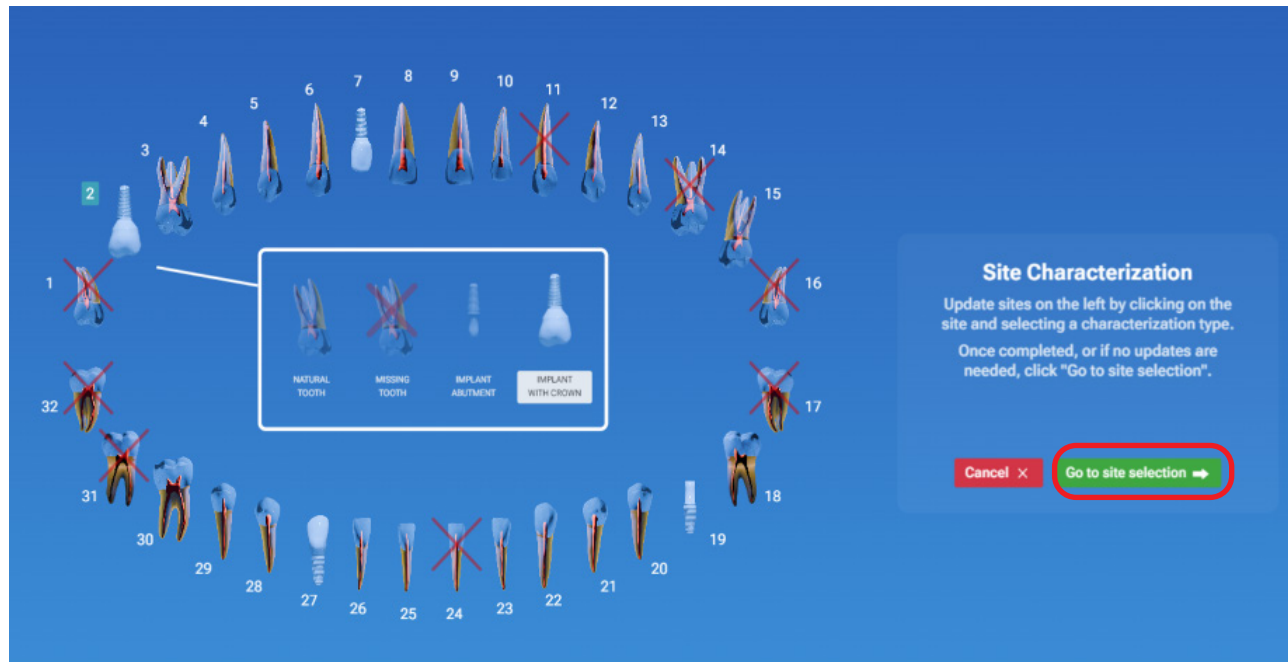

Figure 20: "Measure" tab
1. The first step is the characterization of teeth and/or implants using the selection in the middle of the screen (Figure 20).
- To make or change the characterization of a site, to **Natural Tooth**, **Missing Tooth**, **Implant Abutment**, **Implant with Crown**, click on the green "Site Selection" button. (Figure 20).